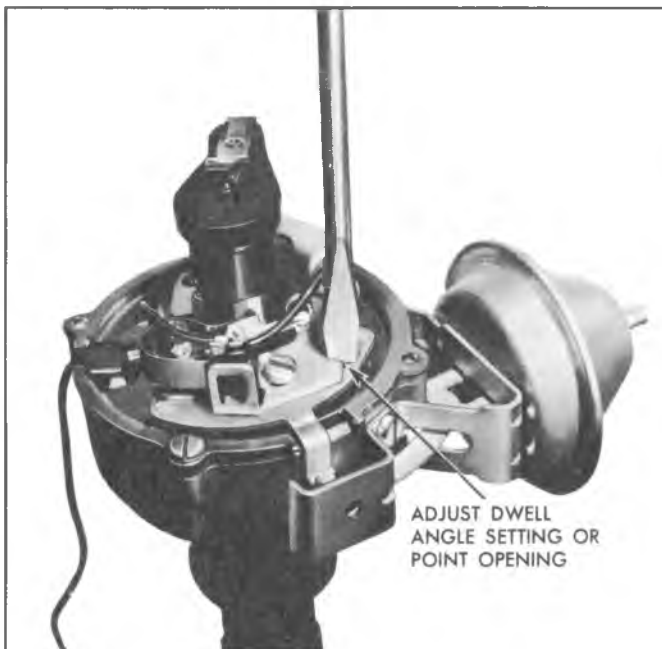

Fig. 7i—Setting Points Opening
3. Use a screw driver (fig. 7i) to move the point support to obtain a .019" opening for new points and a .016" opening for used points.